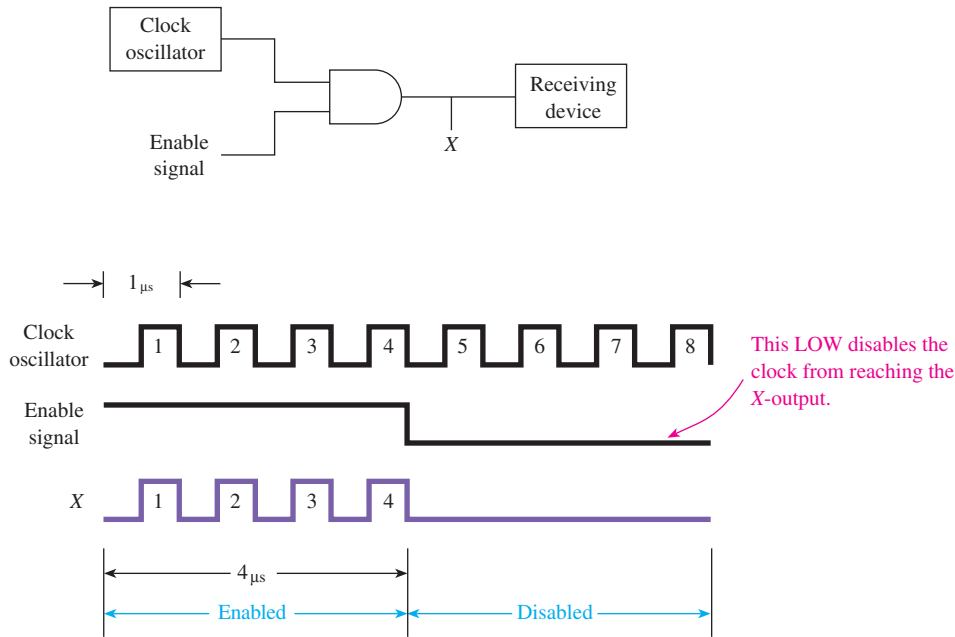

Figure 16 Using an AND gate to enable/disable a clock oscillator.
The clock frequency of 1 MHz converts to $1 \mu\text{s}$ ($1/1 \text{ MHz}$) for each clock period. Therefore, to transmit four clock pulses, we have to provide an *enable* signal for $4 \mu\text{s}$. Figure 16 shows the circuit and waveforms to *enable* four clock pulses. For the HIGH clock pulses to get through the AND gate to point X, the second input to the AND gate (enable signal input) must be HIGH; otherwise, the output of the AND gate will be LOW. Therefore, when the enable signal is HIGH for $4 \mu\text{s}$, four clock pulses pass through the AND gate. When the enable signal goes LOW, the AND gate *disables* any further clock pulses from reaching the receiving device.
Solution: First you apply power to V_{CC} (pin 14) and GND (pin 7). Next you want to check each AND gate with the pulser/probe. Because it takes a HIGH (1) on *both* inputs to an AND gate to make the output go HIGH, if we put a HIGH (+5 V) on one input and pulse the other, we would expect to get pulses at the output of the gate. Figure 24 shows the connections to test one of the gates of a quad AND IC. When the pulser is put on pin 12, the light in the end of the probe flashes at the same speed as the pulser, indicating that the AND gate is passing the pulses through the gate (similar in operation to the clock enable circuit of Figure 16).